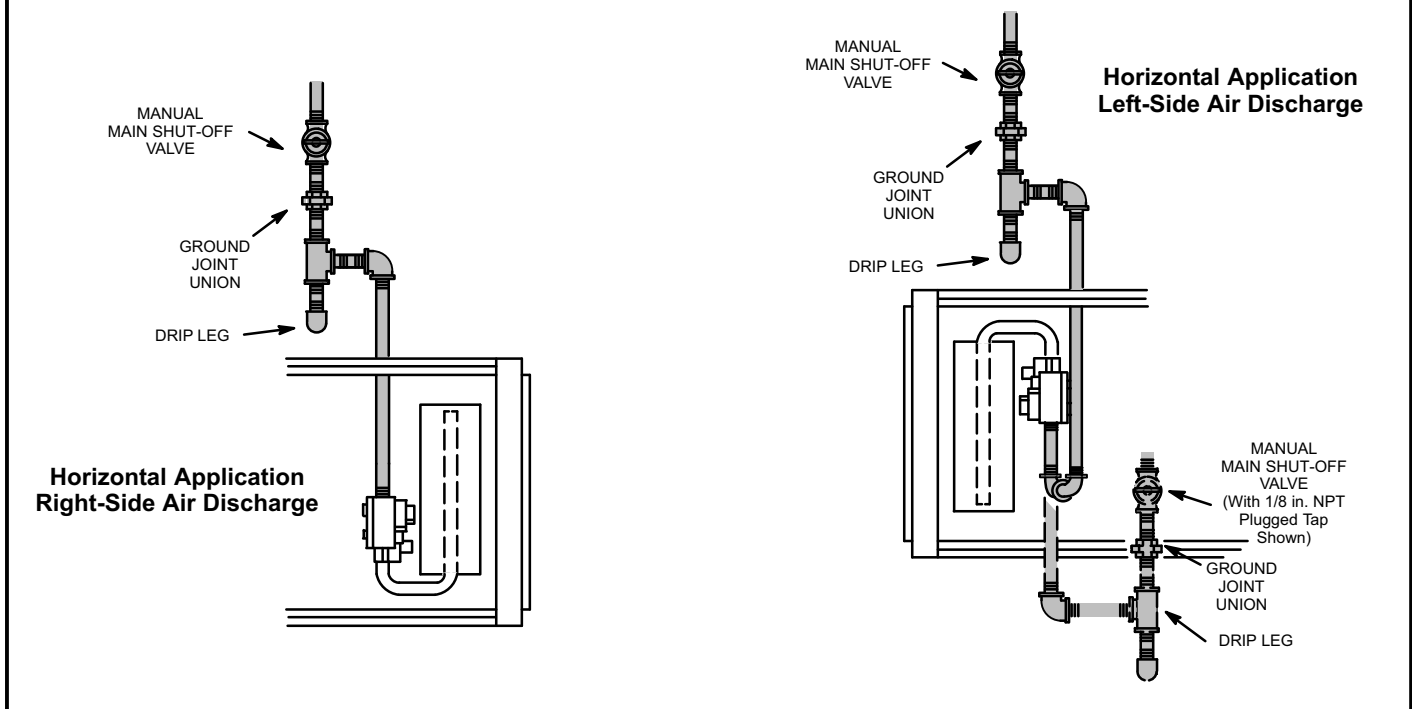

FIGURE 48
- 1 - Gas piping may be routed into the unit through either the left- or right-hand side. Supply piping enters into the gas valve from the side of the valve as shown in figure 48.
- 3 - Gas piping must not run in or through air ducts, clothes chutes, chimneys or gas vents, dumb waiters or elevator shafts. Center gas line through piping hole. Gas line should not touch side of unit. See figure 48.